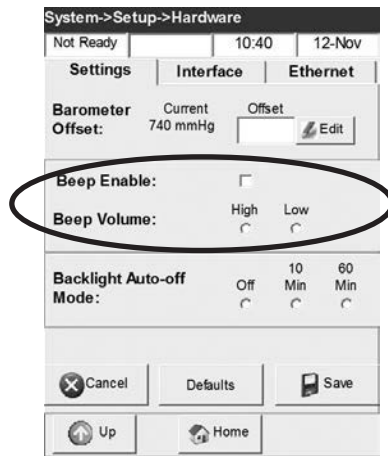

Fig. 3-32 Enable Beep
3. In the **<Settings>** screen, select **<Beep Enable>** (Fig. 3-32).